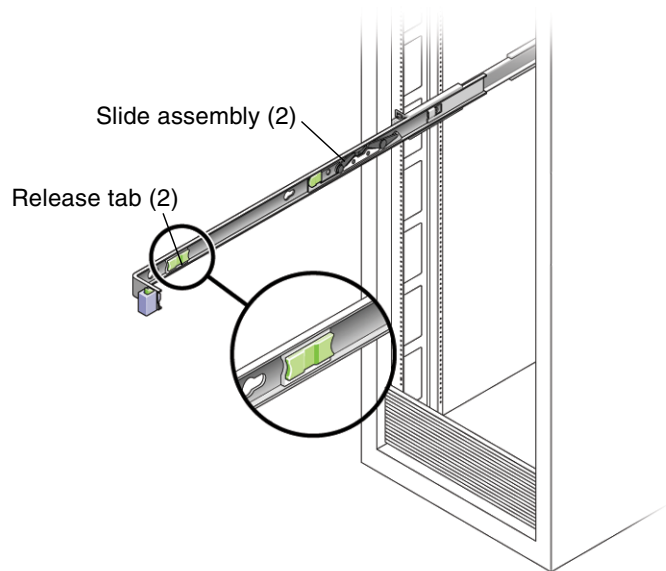

FIGURE 3-4 Release Tabs and Slide Assembly
4. From the front of the server, pull the release tabs forward and pull the server forward until it is free of the rack rails (FIGURE 3-4).